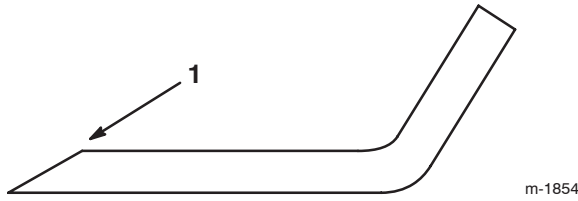

Figure 36
1. Use a file to sharpen the cutting edge at both ends of each blade (Fig. 36). Maintain the original angle. The blade retains its balance if you remove the same amount of material from both cutting edges.